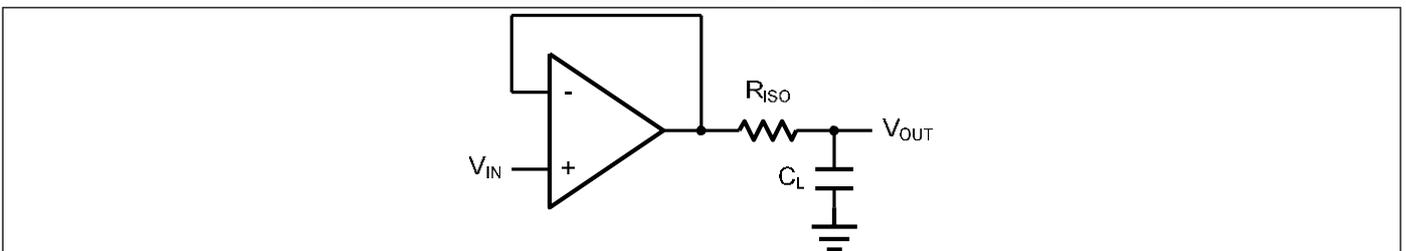
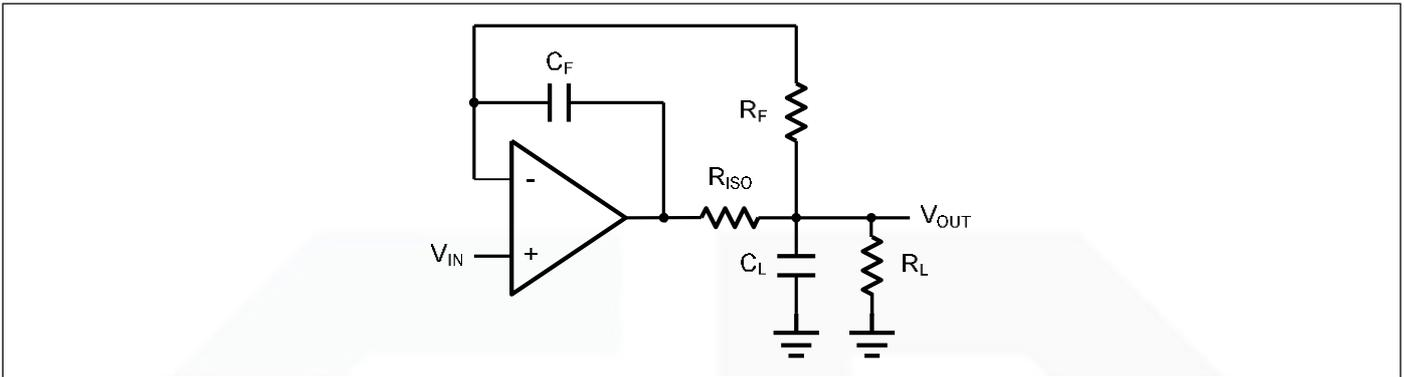

Figure 2. Indirectly Driving a Capacitive Load Using Isolation Resistor
Figure 3. Indirectly Driving a Capacitive Load with DC Accuracy
The MA859x family is optimized for bandwidth and speed, not for driving capacitive loads. Output capacitance will create a pole in the amplifier's feedback path, leading to excessive peaking and potential oscillation. If dealing with load capacitance is a requirement of the application, the two strategies to consider are (1) using a small resistor in series with the amplifier's output and the load capacitance and (2) reducing the bandwidth of the amplifier's feedback loop by increasing the overall noise gain. Figure 2. shows a unity gain follower using the series resistor strategy. The resistor isolates the output from the capacitance and, more importantly, creates a zero in the feedback path that compensates for the pole created by the output capacitance.
The circuit in Figure 3 is an improvement to the one in Figure 2. R_F provides the DC accuracy by feed-forward the V_{IN} to R_L . C_F and R_{ISO} serve to counteract the loss of phase margin by feeding the high frequency component of the output signal back to the amplifier's inverting input, thereby preserving the phase margin in the overall feedback loop. Capacitive drive can be increased by increasing the value of C_F . This in turn will slow down the pulse response.